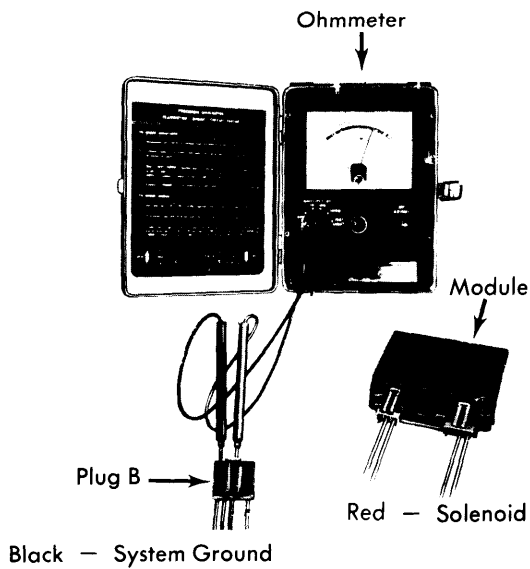

Fig. 5 Solenoid Test Connections
**Solenoid Test** — Remove plug B from control module and connect an ohmmeter between pin six and pin four (see Fig. 5). Resistance should be 2-8 ohms. If resistance is lower than two ohms, inspect solenoid wiring from a grounded condition. If resistance is higher than eight ohms, connect ohmmeter to terminals on solenoid. If resistance is between two and eight ohms, inspect wiring for an open or poor connection. If resistance is not to specifications, replace actuator assembly.